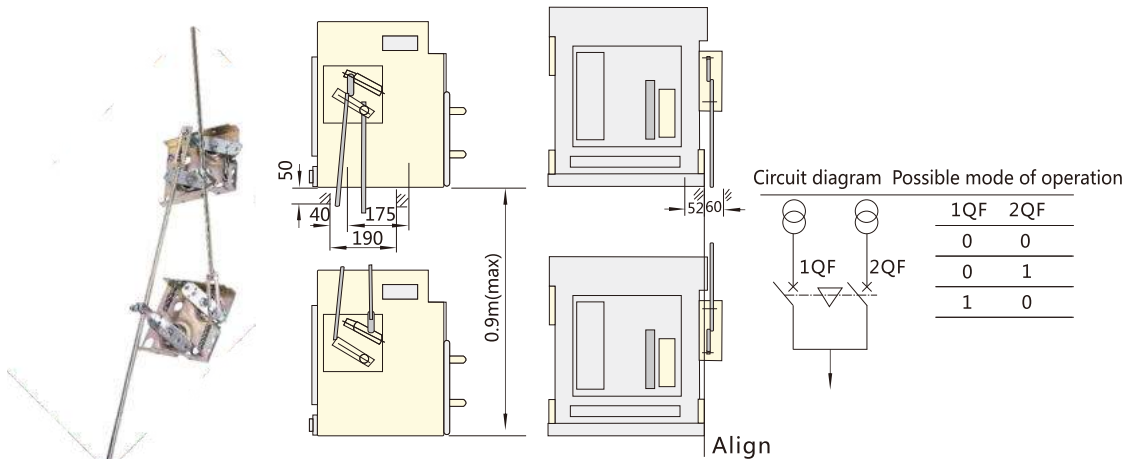

Figure 103 Connecting rod interlock
12.15.3 Leakage protection detection principle shown in Figure 103